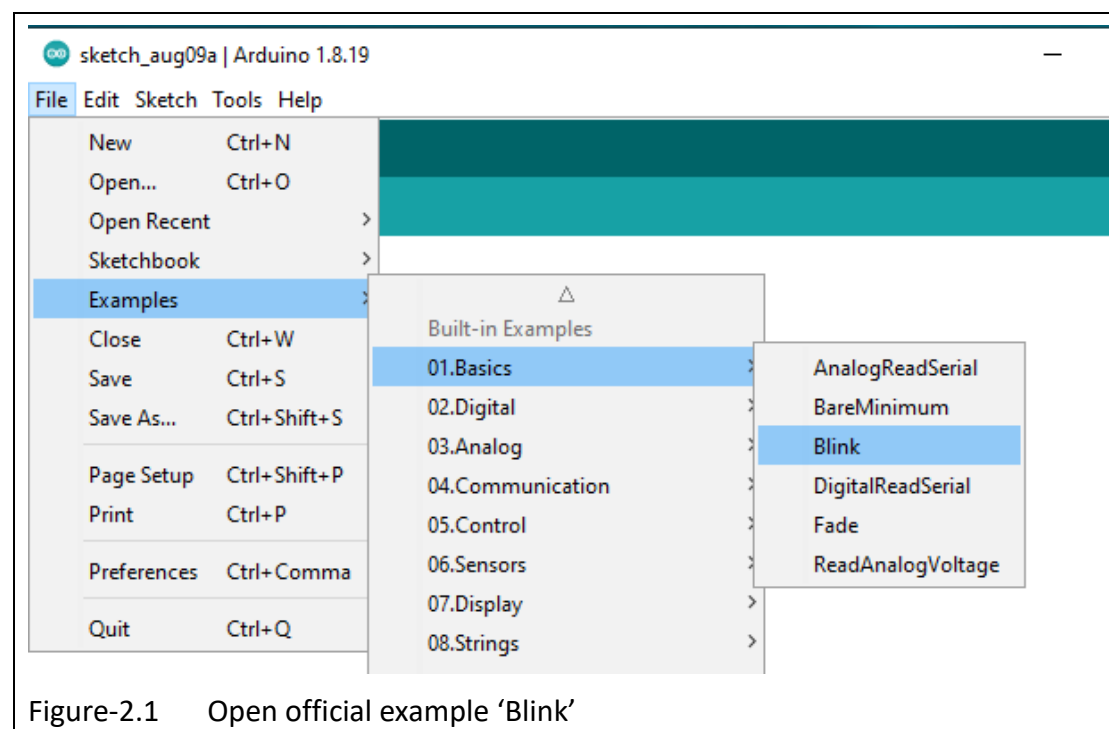

Figure-2.1 Open official example 'Blink'
1. In Arduino IDE, select 'File' 'Examples' '01.Basics' 'Blink' to start an official example. (Figure-2.1)